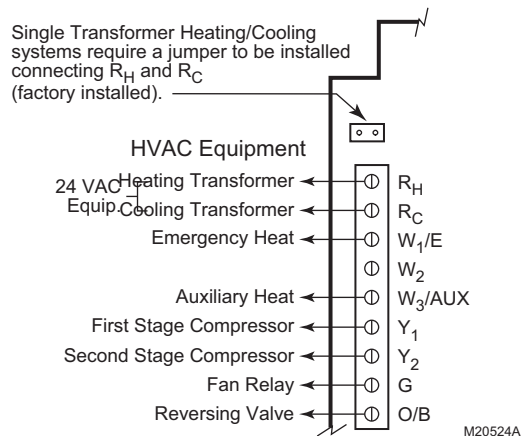

Fig. 20. Wiring two-stage heat pump with separate auxiliary and emergency heat.
- Wire emergency heat to W1/E, see Fig. 20.